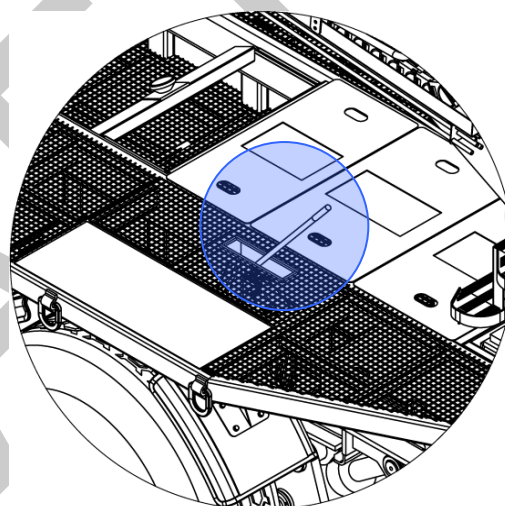

Figure 16 – Auxiliary hand pump location
If the electrical and hydraulic control systems have failed, or the engine has failed (e.g. run out of fuel) then the boom may only be returned to its stowed position using the auxiliary hand pump. This is located alongside the central maintenance hatch cover on the chassis (see Figure 16). During normal use, the handle is stored in the chassis compartment on the offside of the vehicle (opposite to the remote controls storage compartment).
- Retrieve the hand pump handle from the chassis compartment & insert it into the hand pump, as shown in Figure 16.